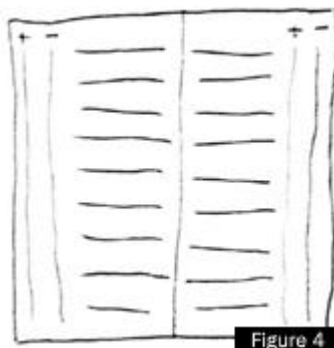

Figure 4
8. Familiarize yourself with the way a breadboard functions. Refer to figures 4, 5 and 6.